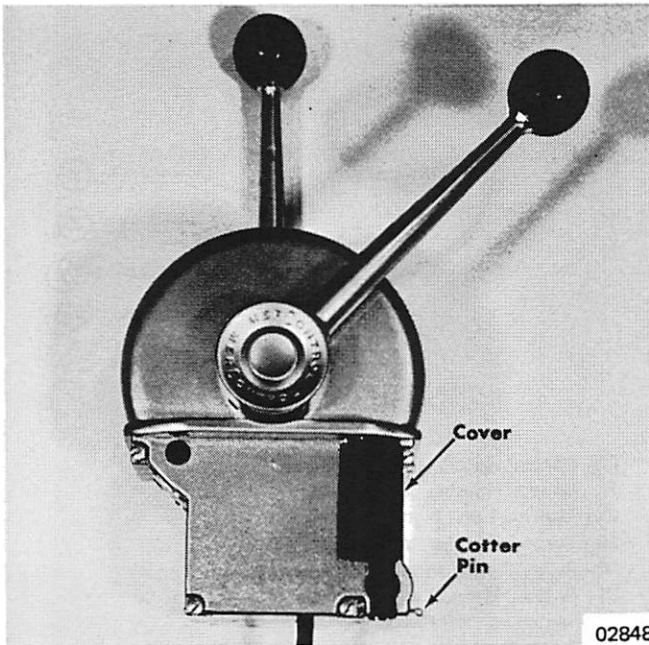

Figure 1. Removing Covers
1. Remove cotter pins and covers. (Figure 1)